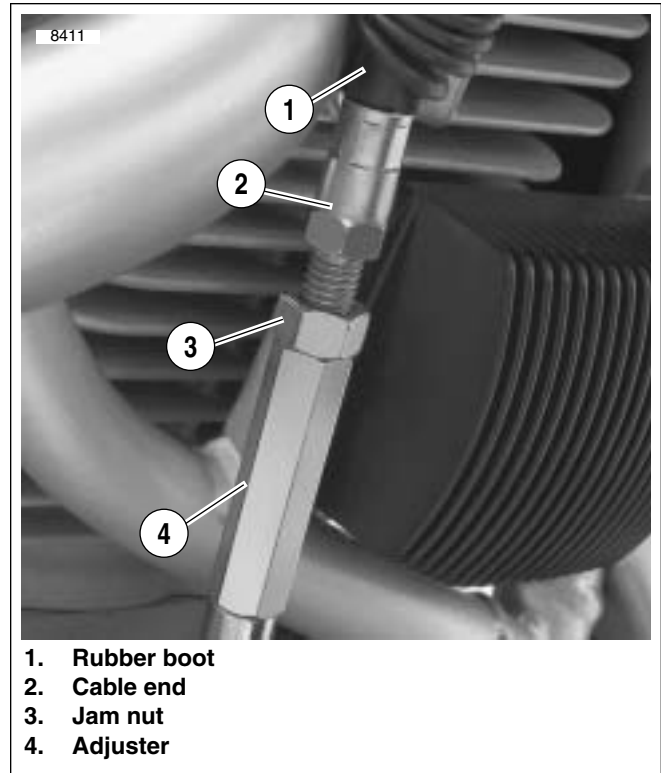

Figure 1-28. Clutch Cable Adjuster Mechanism
2. See Figure 1-28. Slide rubber boot (1) upward to expose adjuster mechanism. Loosen jam nut (3) from adjuster (4). Turn adjuster to shorten cable housing until there is a large amount of free play at clutch hand lever.
- b. See Figure 1-28. Set free play by turning adjuster (4).
- c. Tighten jam nut (3) against adjuster (4).
- d. Slide boot (1) over cable adjuster mechanism.